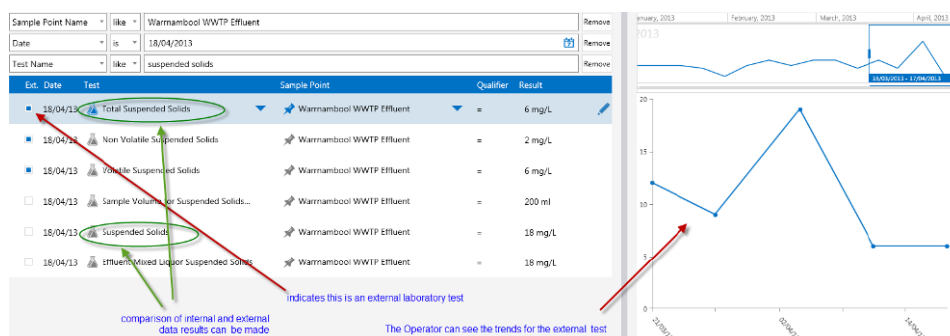

Figure 9: *External laboratory data can be easily identified and comparisons can be made with in-house data*
7. **Viewing external laboratory data.** Aquantify also houses external laboratory data, which is imported into the system. This allows for comparison of in-house testing results with external laboratory results. External data is easily distinguishable from in-house data by the external “dot” (Figure 9). An operator can filter this data in or out (Figure 10). This data can be easily added into reports if required.